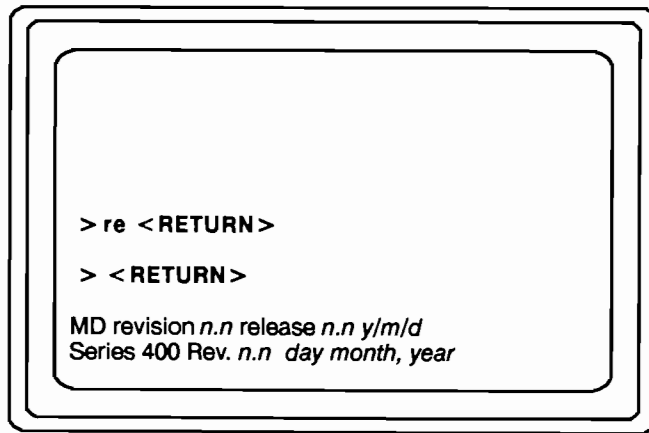

Figure 6-17. Resetting the MD
- The system is under the control of the Mnemonic Debugger (MD). Your screen should display the MD ">" prompt.
1. Reset the MD as shown in Figure 6-17. The system now displays the revision date of the CPU PROM.